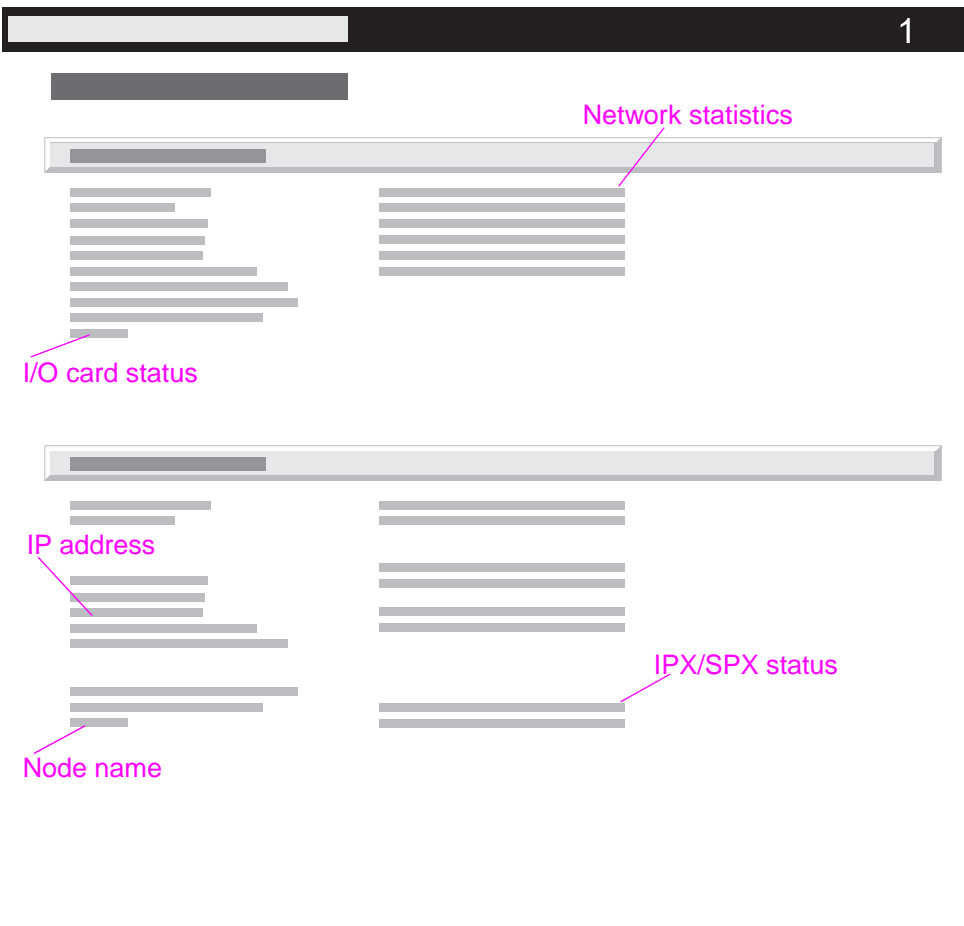

Figure 7-8 Sample JetDirect Configuration Page
The JetDirect Configuration Page shown in figure 7-8 on page 526 contains valuable information about the current status of the EIO accessories. Before attempting to troubleshoot a network problem or notifying your network consultant of a problem, always print a Configuration Page from the Control Panel's Information Menu. If an EIO accessory is installed, the JetDirect Configuration Page prints too.
- A “Novell Status” block should state the Novell printer server name to which the printer is connected. If the Node Name reads “NPIxxxxxx” (xxxxxx = last six digits of the EIO's LAN address), the EIO card has not been configured for a Novell server (as in figure 7-8). This could indicate that the card is operating under an IPX protocol other than Novell. Consult with the network administrator if the Node Name is not present.